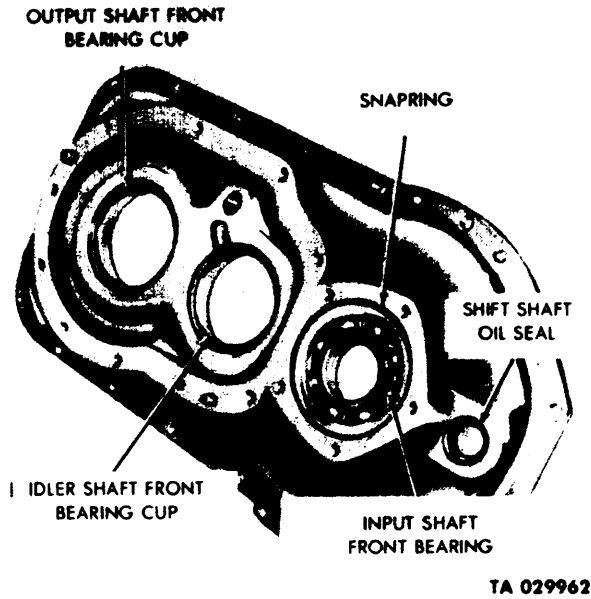

Figure 4-41. Transfer Case Cover — Disassembly.
(1) Press the input shaft front bearing and snapping (fig. 4-41) from the front cover, using a suitable remover and replacer.
- d. Transfer case cover (figs. 4-41, 4-42).